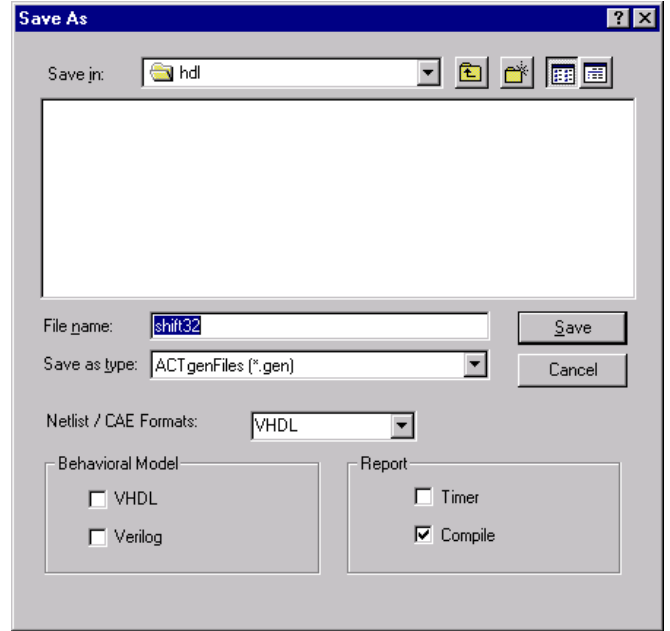

Figure 5 - ACTgen Generate Macro dialog box
5. Select **Generate** from the File Menu and set the following options in the Generate Macro dialog box (Figure 5):